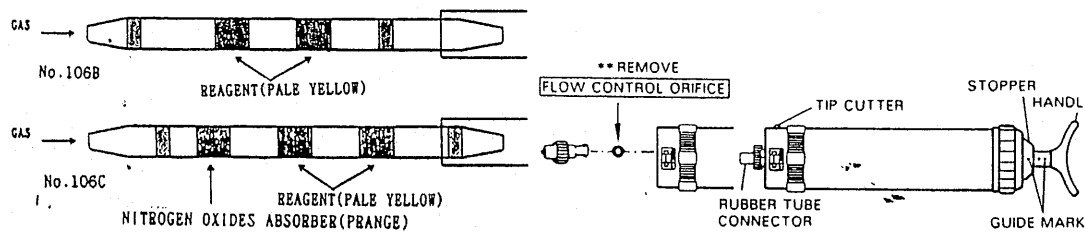

Fig. 1
1. Break tips of a fresh detector tube by bending each tube end in the tube tip cutter and then insert the tube end of the detector tube marked with red dot, securely into pump inlet, as shown in Fig.1.